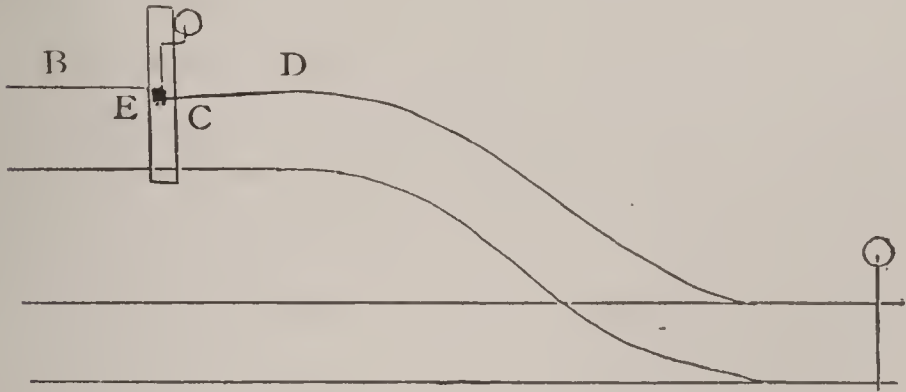

Fig. 12.
16. Fig. 12, illustrates a method for derailing cars, and is used in cases where extra precautions are required to prevent cars from accidentally running out of the siding upon the main track.